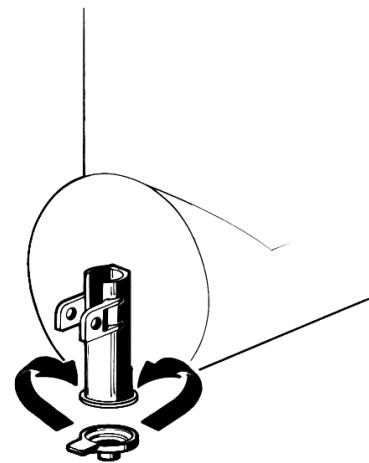

figure 4
- 11 -Restrictor cap: when the unit is used in Soft Drink mode it is advisable to install the restrictor cap on the faucet outlet in order to reduce the drink outflow (see figure 4).